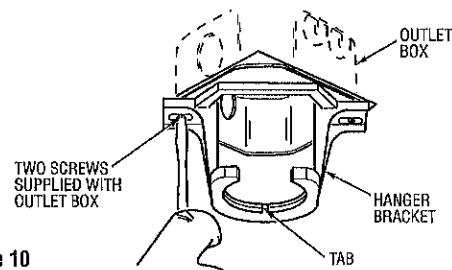
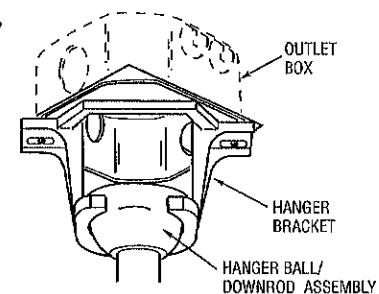

Figure 10
Figure 11
- ☐ 1. Securely attach the hanger bracket to the outlet box using the two screws supplied with the outlet box. (Figure 10.)
- ☐ 2. Carefully lift the fan and seat the hanger ball/downrod assembly on the hanger bracket that was just attached to the outlet box (Figure 11). Be sure the groove in the ball is lined up with tab on the hanger bracket (Figure 10).